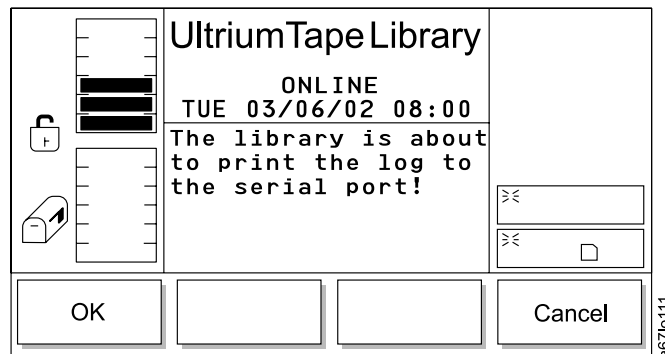

Figure 100. Print Dialog
- If **Print** is selected, the Print Dialog displays (see Figure 100).